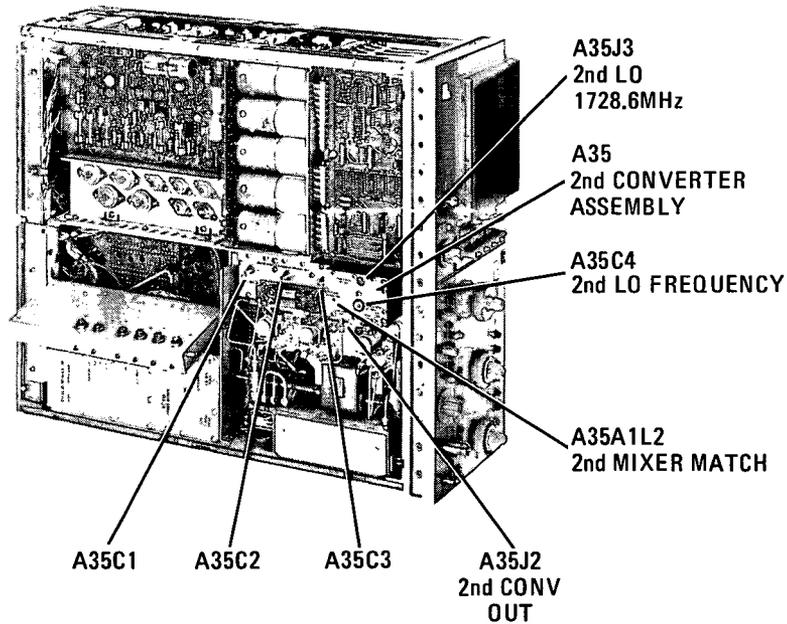

Figure 5-35. Second Converter Adjustment Locations
- c. Connect frequency counter through modified adapter (HP Part No. 08565-60087) to A35J3 2ND LO (Figure 5-35) and adjust A35C4 2ND LO FREQUENCY for 1728.60 MHz \pm 0.1 MHz.